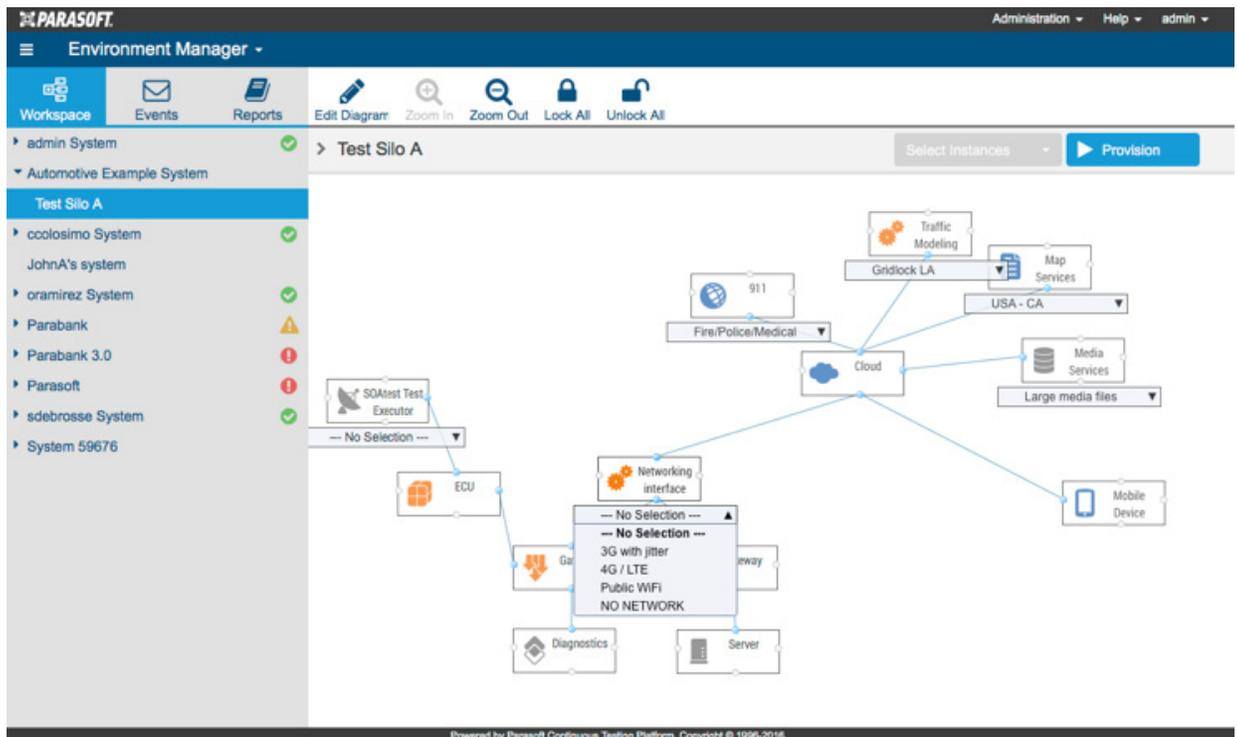

Fig. 4: Graphically managing a virtual test environment.
What we need to do is build a ‘virtual test environment’ that leverages Service Virtualization to provide multiple emulations of the different end-points. We can then reconfigure this test environment ‘on demand’ (see Fig. 4), enabling/disabling different virtual assets, and simulating different behavior of the end-points based on the requirements of the test being performed. This does not eliminate the need for a physical test bed, but it does enable the seamless execution of end-to-end scenarios during Continuous Integration (CI) workflows and enables testers to create and execute tests that validate the code being developed free of constraints imposed of external systems that they do not have control of.